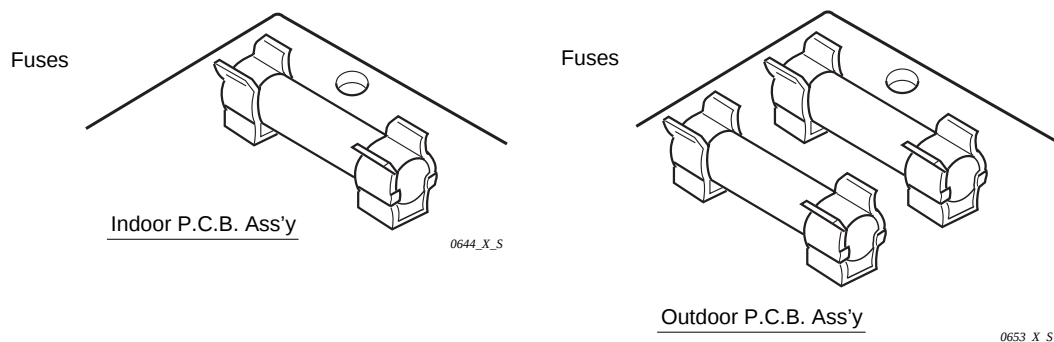

Fig. 31
⑩ **Fuse on indoor and outdoor P.C.B. Ass'y Both in indoor and outdoor unit**
- Remove the P.C.B. Ass'y from the electrical component box. Then pull out the fuse from the P.C.B. Ass'y. (**Fig. 31**)